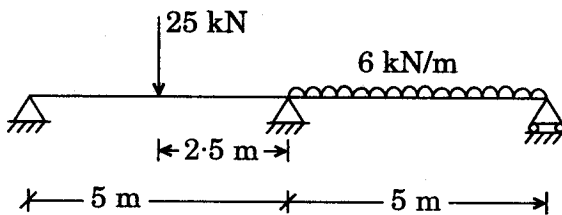

Figure 1
2. A continuous beam is loaded as shown in Figure 1. Calculate support reaction and draw B.M.D. and S.F.D using Three Moments Theorem. Assume EI as constant.